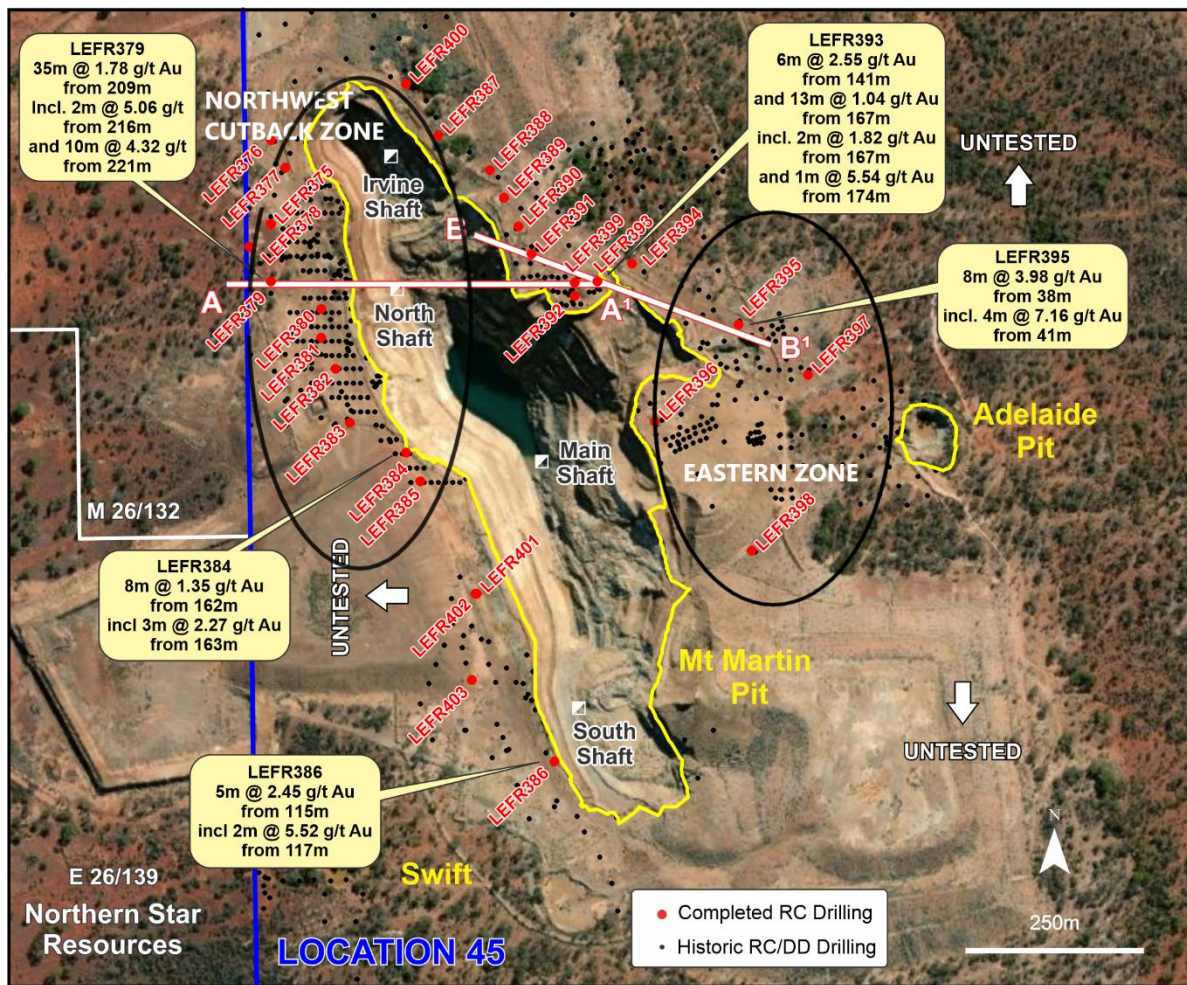
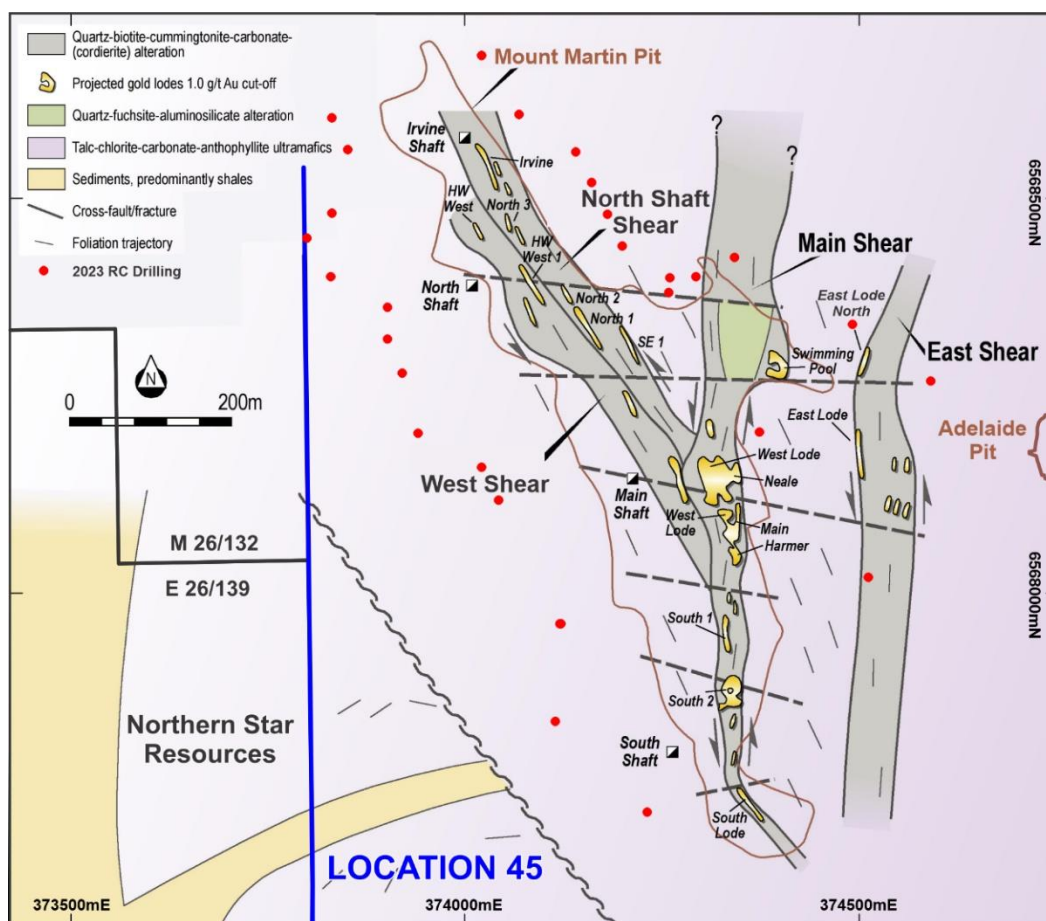
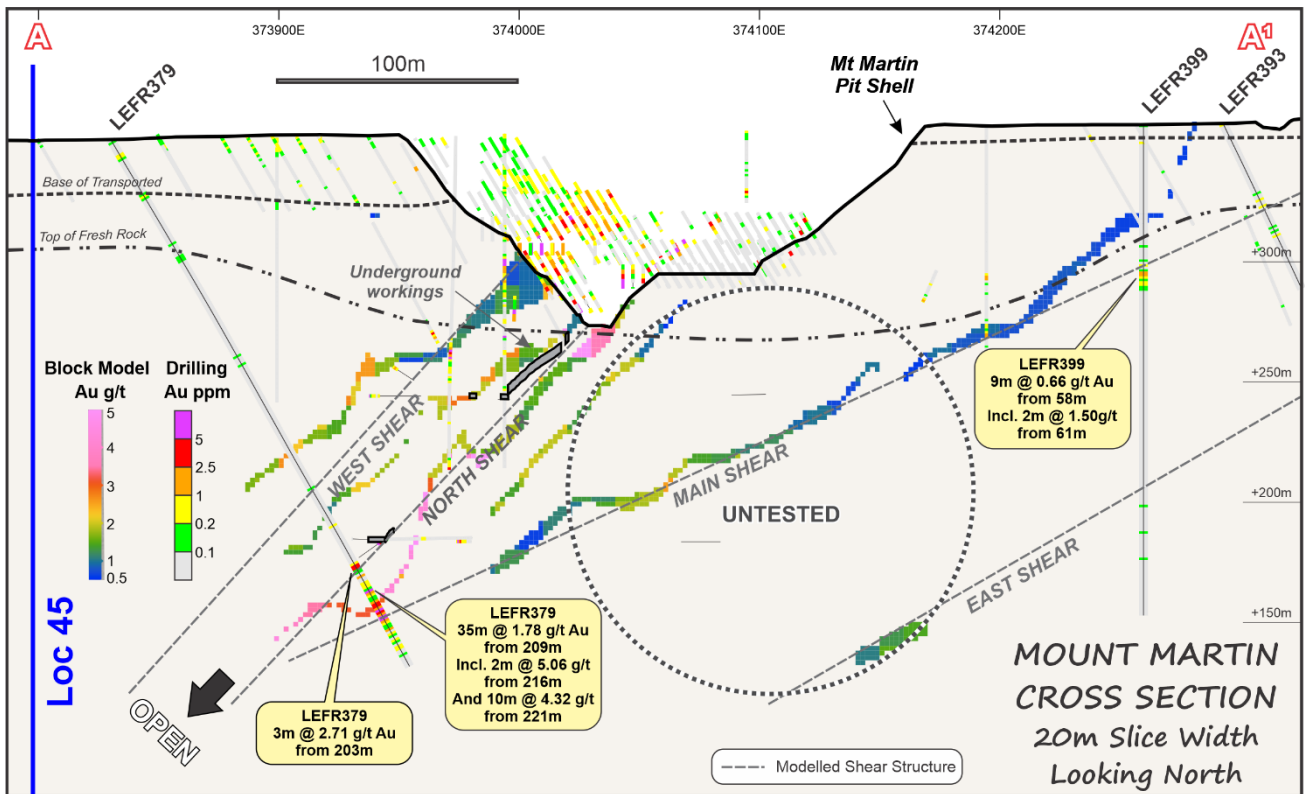
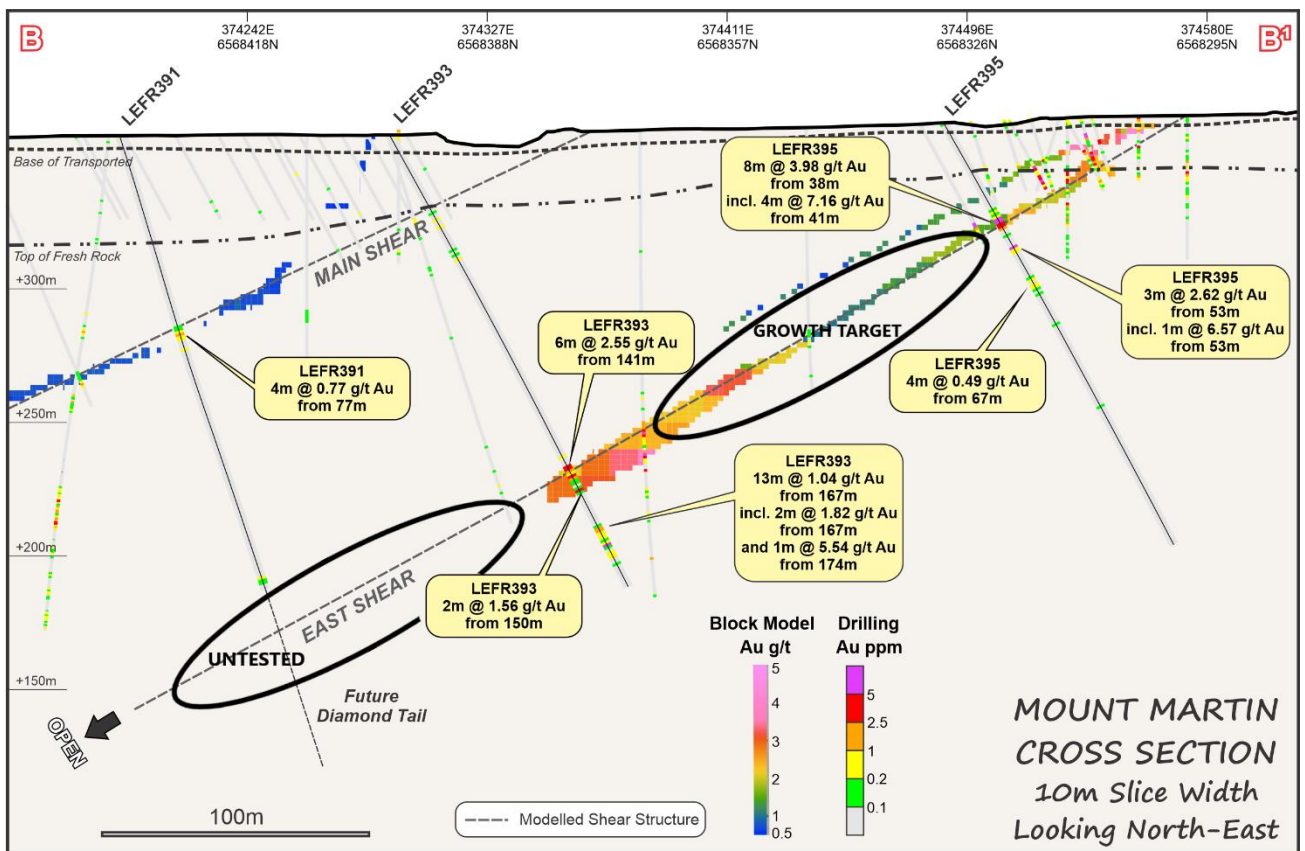

Figure 1 Mt Martin Gold Mine drill hole location plan (refer to Figures 3 and 4 for drill sections)
Figure 2 Mt Martin Gold Mine geological interpretation and recent drill hole location plan
Figure 3 Schematic drill section depicting RC drill holes LEFR379 and LEFR399
Figure 4 Schematic drill section depicting RC drill holes LEFR391, LEFR393 and LEFR395
The Company’s maiden resource expansion drilling program at Mt Martin consisted of 29 reverse circulation (RC) drillholes (Table 1) located proximal to the existing open pit and evaluated multiple extensions at depth and shallow gold-bearing shear structures over a strike length of 1,000m (Figure 1).
Drill holes on the west side of the open pit (Figure 1) targeted the north-west plunging ore shoots which are a feature of high-grade mineralisation at Mt Martin (Figure 2). Significant results include:
These results are highly encouraging as they confirm the mineralised structures have significant down-dip continuity that remains open at depth to the west (Figure 3) of the existing resource. There is significant potential for the discovery of additional shoot structures proximal to the existing resource where the controlling structures remain untested along strike to the north and south (Figures 2, 3 and 4).
Drill holes on the east side of the pit (Figure 1) were planned to confirm the near-surface continuity of mineralised structures including the Main Shear and the East Shear (Table 2), outside the eastern extent of the open pit. This area has been subject to limited historic drilling and forms a gap in resource data immediately outside the open pit (Figures 1 and 2).
These holes confirm the discovery of an entirely new shoot structure in hole LEFR393 that remains open at depth, and to the north along strike (Figure 4). These initial results are considered by the Company to be very exciting and highlight the potential for the discovery of additional new zones of mineralisation adjacent to the pit and outside the current MRE that are almost entirely untested by effective drilling (Figure 1).